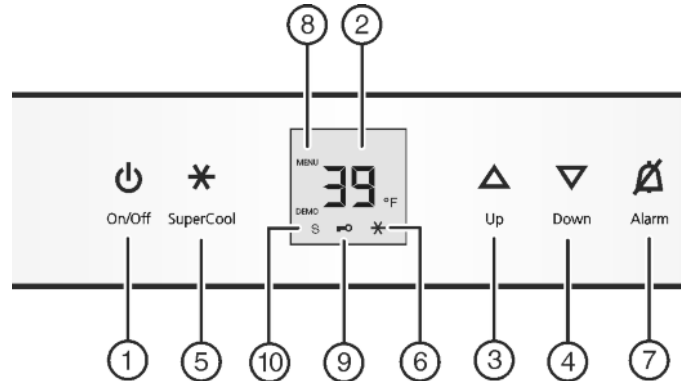

Fig. 3
- ▶ Press On/Off button *Fig. 3 (1)*.
- ▶ Activate setting mode: Press SuperCool button *Fig. 3 (5)* for about 5 seconds.
- ▷ The SuperCool button *Fig. 3 (5)* will flash.
- ▶ Using Up button *Fig. 3 (3)*/ Down button *Fig. 3 (4)* select °.
- ▶ To confirm: Briefly press SuperCool button *Fig. 3 (5)*.
- ▶ Using Up button *Fig. 3 (3)*/ Down button *Fig. 3 (4)* select °F or °C.
- ▶ To exit setting mode: Press On/Off button *Fig. 3 (1)*.
- ▶ Select setting mode: Press and hold the SuperCool button *Fig. 3 (5)* for approx. 5 seconds.
- ▶ Using the Up *Fig. 3 (3)* or Down button *Fig. 3 (4)*, select c.
- ▶ Press the SuperCool button *Fig. 3 (5)* briefly to confirm. When c1 is shown on the display:
- ▶ To switch on the child proof lock, press the SuperCool button *Fig. 3 (5)* briefly.
- ▷ The Child safety symbol *Fig. 3 (9)* lights up. c flashes on the display.
- ▶ To switch the child proof lock off, press the SuperCool button *Fig. 3 (5)* briefly.
- ▷ The Child safety symbol *Fig. 3 (9)* goes out. c flashes on the display.
- ▶ To deactivate setting mode: Press the On/Off button *Fig. 3 (1)*.
- ▶ Press Alarm button *Fig. 3 (7)*.
- ▶ To activate setting mode: Press and hold the SuperCool button *Fig. 3 (5)* for approx. 5 s.
- ▷ The Menu symbol *Fig. 3 (8)* lights up.
- ▶ To access the Sabbath mode function: Briefly press the SuperCool button *Fig. 3 (5)*.
- ▶ **To turn on** Sabbath mode, briefly press the SuperCool button *Fig. 3 (5)*.
- ▶ **To turn off** Sabbath mode, briefly press the SuperCool button *Fig. 3 (5)*.
- ▷ The Sabbath Mode symbol *Fig. 3 (10)* appears on the temperature display as long as Sabbath Mode is active.